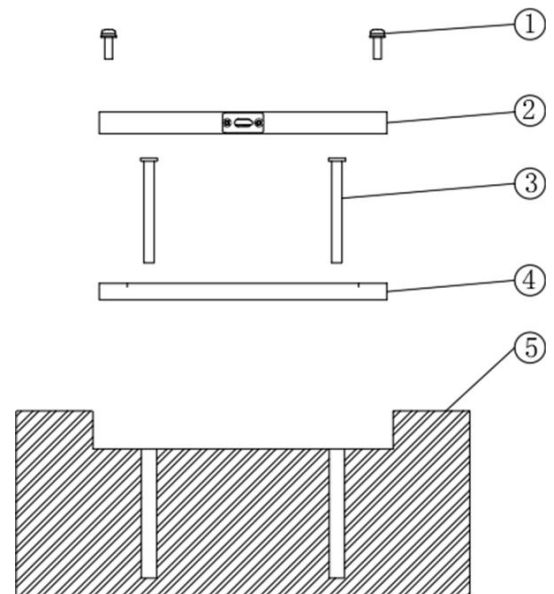
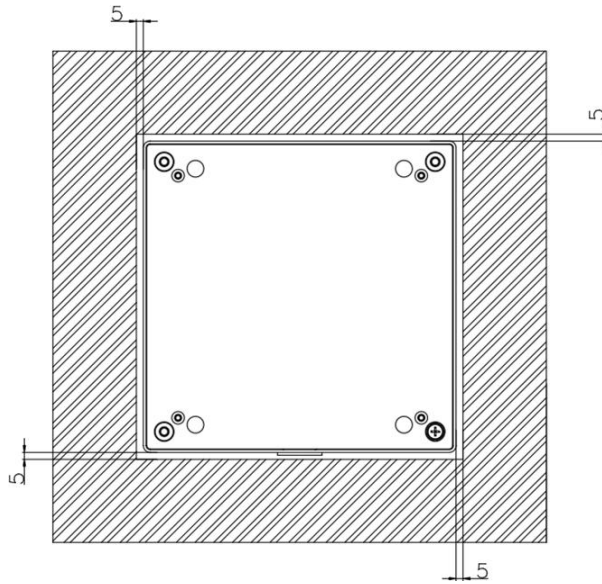

Fig 12-2 – Assembly drawing of the Transmitter coil
Fig 12-3 – Installation position diagram of the transmitter coil
- 2、Insert number ③ at the hole position shown in Figure 10-1 and fix number ④ with M8 screws as shown in Figure 12-2;
- 3、Place number ② on top of number ④ and fix it with number ①M6 screw, as shown in Figure 12-2 and Figure 12-3;